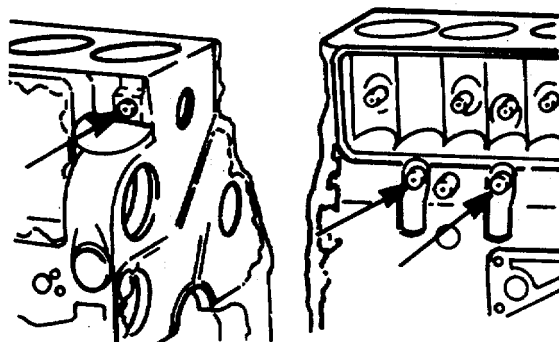

FIGURE 4-84. Removing Pipe Plugs.
- b. Remove the pipe plugs (FIGURE 4-84).